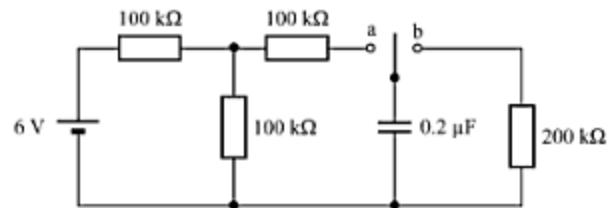

Fig. 8.27
18. In the network of Fig. 8.27, the switch is closed on to position a when  $t = 0$  and then moved to position b when  $t = 20$  ms. Determine the voltage across the capacitor when  $t = 30$  ms.